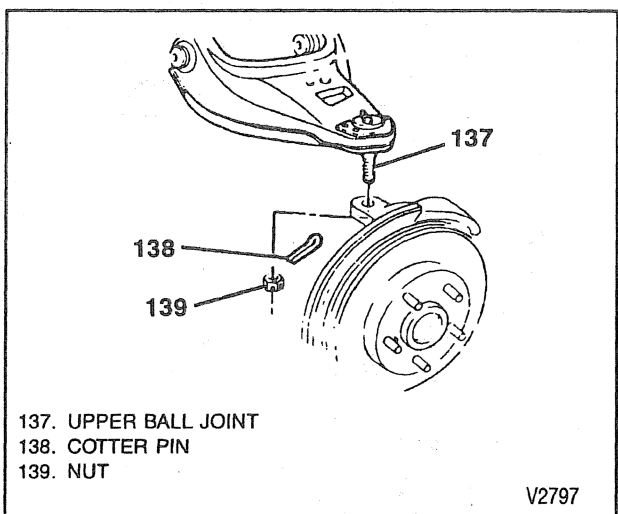

Figure 10—Ball Joint and Knuckle Separation
9. Disconnect the cotter pin (138) from the upper control arm ball joint stud.
10. Remove nut (139) (figure 10).
11. Stud (137) from knuckle (figure 10).
12. Nut (figure 10).